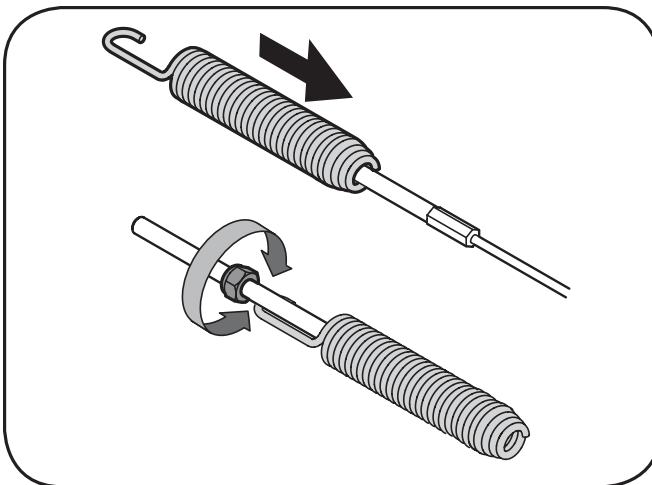

Fig. 3-13
- Loosen the Nylock nut on the drive control cable and unthread the cable one full turn. See Figure 3-13.
- Push the cable coupler through the end of the spring to expose the lock nut. See Figure 3-13.